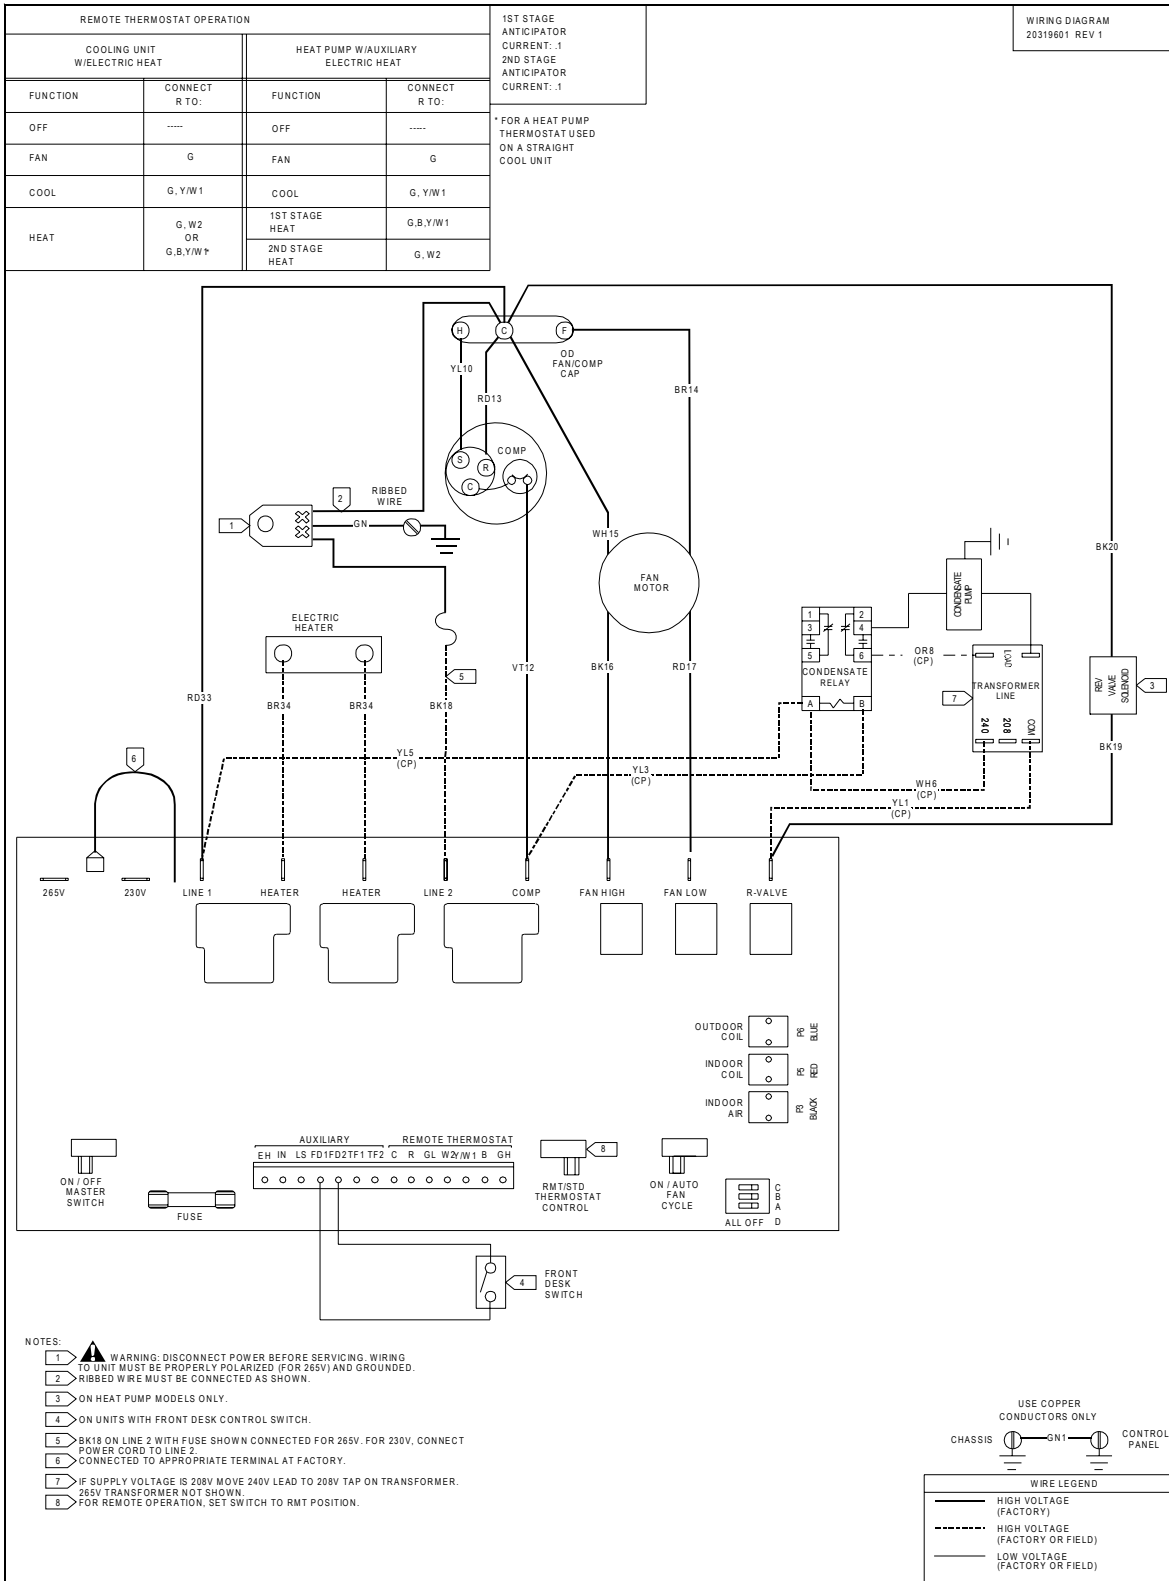

Figure 12
21. Disconnect the RD33, VT12, and BK19 wires from the control board and connect the YL5 (where RD33 was connected), YL3 (where VT12 was connected), and YL1 (where BK19 was connected). Connect RD33 to the piggyback terminal of YL5, VT12 to the piggyback terminal of YL3, and BK19 to the piggyback terminal of YL1. Make sure the OR8 wire is connected from the #6 terminal of the relay to 24 volt terminal of the transformer (Figure 12).